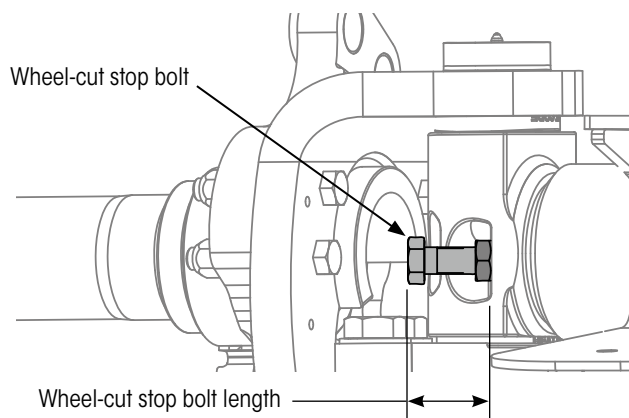

Figure 32: Adjustable wheel-cut stop bolts
The maximum wheel-cut is set by adjusting the two wheel-cut stop bolts (Figure 32) on each end of the axle, rear side. These stop bolts are aligned to the knuckle for the purpose of limiting steer axle wheel-cut movement and prevent the wheels from contacting the trailer.
1. **Loosen** stop bolt jam nut (Figure 32).